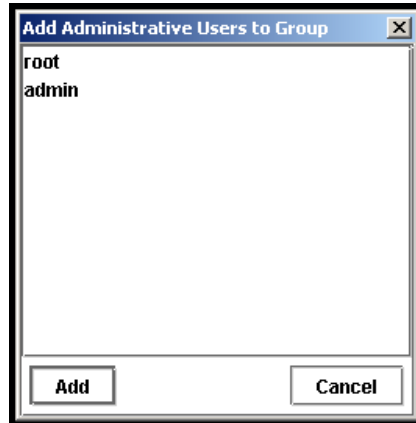

Figure 82. Adding an Administrative User to a Group
1. Click Add in the Users section. The Add Users window opens with a list of administrative users, shown in Figure 82.